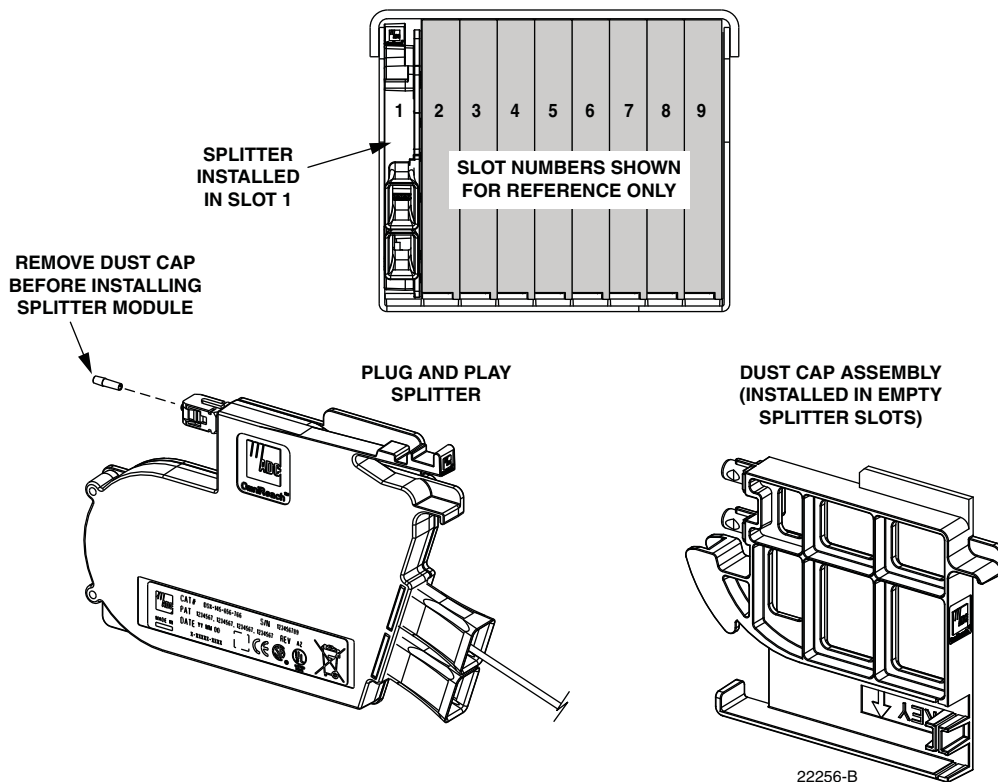

Figure 59. Splitter Module Installation
2. Locate the next available splitter mounting position as shown in Figure 59.
7. Remove the dust cap from the splitter connector (see Figure 59).